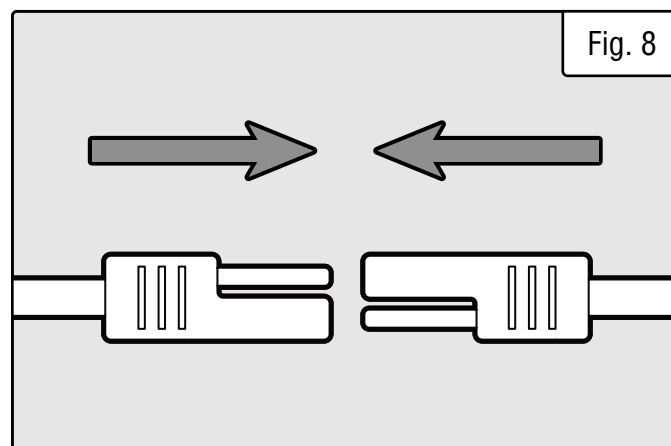

Fig. 8
2. Connect the two ends of the quick-connector on the battery (Fig. 8) to the ends of the quick-connector on the starter motor.